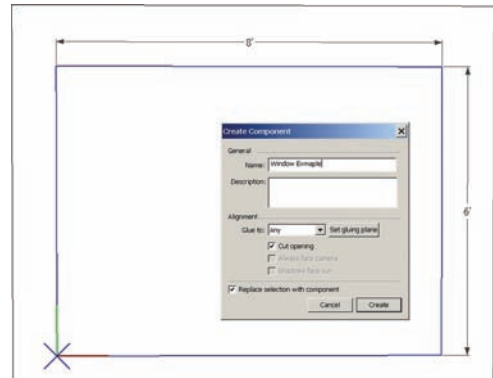

Fig. 9-6: Select the edges of the deleted face, right-click, and select Make Component.
5. While hovering the cursor over one of the edges, right-click and select Make Component (Fig. 9-6).
6. In the Component menu, the Glue To drop-down box should be set to Any and the Cut Opening box should be checked. Once it is checked, enter a name for the component (**Window Example**) and select OK. This will create the base for the window component (Fig. 9-6).